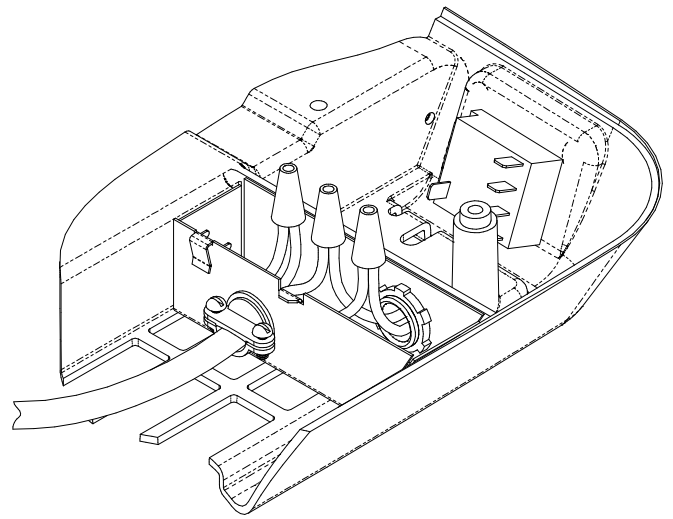

FIGURE 8
- F. Insert the supply wiring through the cable clamp and into the field wiring box so that 4 – 6" of supply conductor is inside the box. Secure the cable clamp over the supply wire sheath so that no movement is possible (See Figure 8).
- G. Connect the supply power conductors to the black and white pigtail wires and the supply ground wire to the green pigtail wire found in the field wiring box using the 3 provided wire nuts. **IMPORTANT** – Connect the black supply to the black pigtail and the white supply to the white pigtail. Using a U.L. approved electrical tape, secure the wire nuts to wires in a workmanlike manner (See Figure 8).